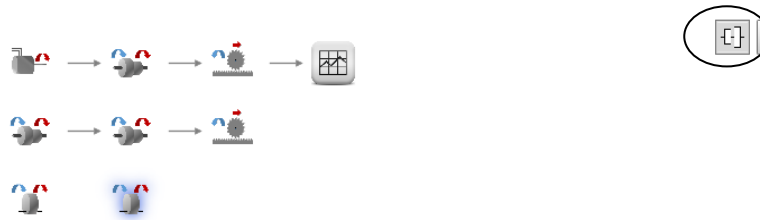

Fig. 22 Auto-align button
- The auto-alignment button (see Fig. 22) allows to align mechanical elements as follows: